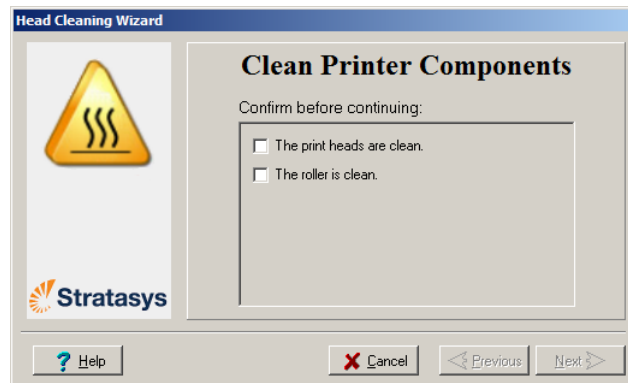

Figure 6-22: Head cleaning wizard—steps 5–11
11. When you have finished cleaning, select the confirmation check boxes in the wizard screen (see figure 6-22) and click Next.